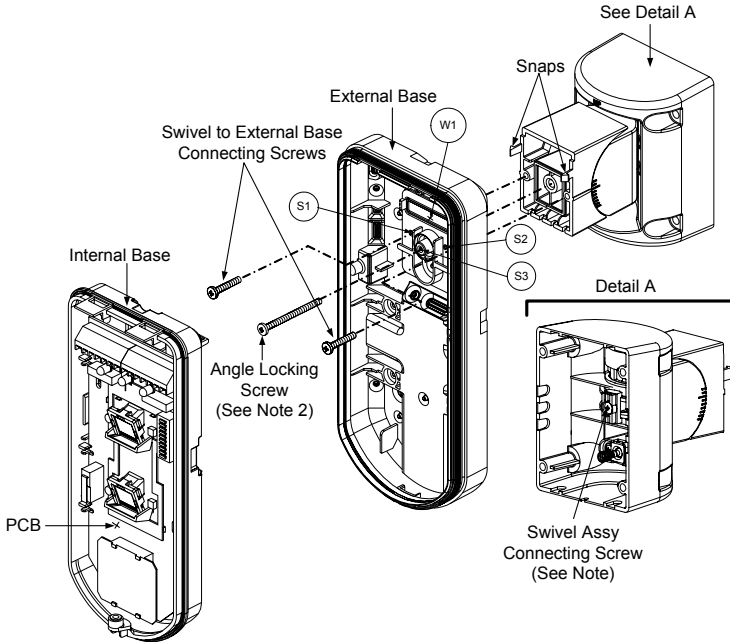

Figure 7
The Tamper spring S5 (Figure 7) should make contact with the wall through the tamper spring holes M2 or M3 on the CSMA. Make sure to hear the tamper "Click" when connecting to the wall.
8. Connect the external base to the swivel using the dedicated snaps (Figure 7).
9. Secure external base to swivel with two screws fastened to knockouts S1 and S2 (Figure 7).
10. Insert the supplied angle locking screw from the external base through the angle locking screw knockout S3 on the external base to the standard swivel (Figure 7).
14. To readjust the Standard Swivel when the PCB is installed (Figure 7):